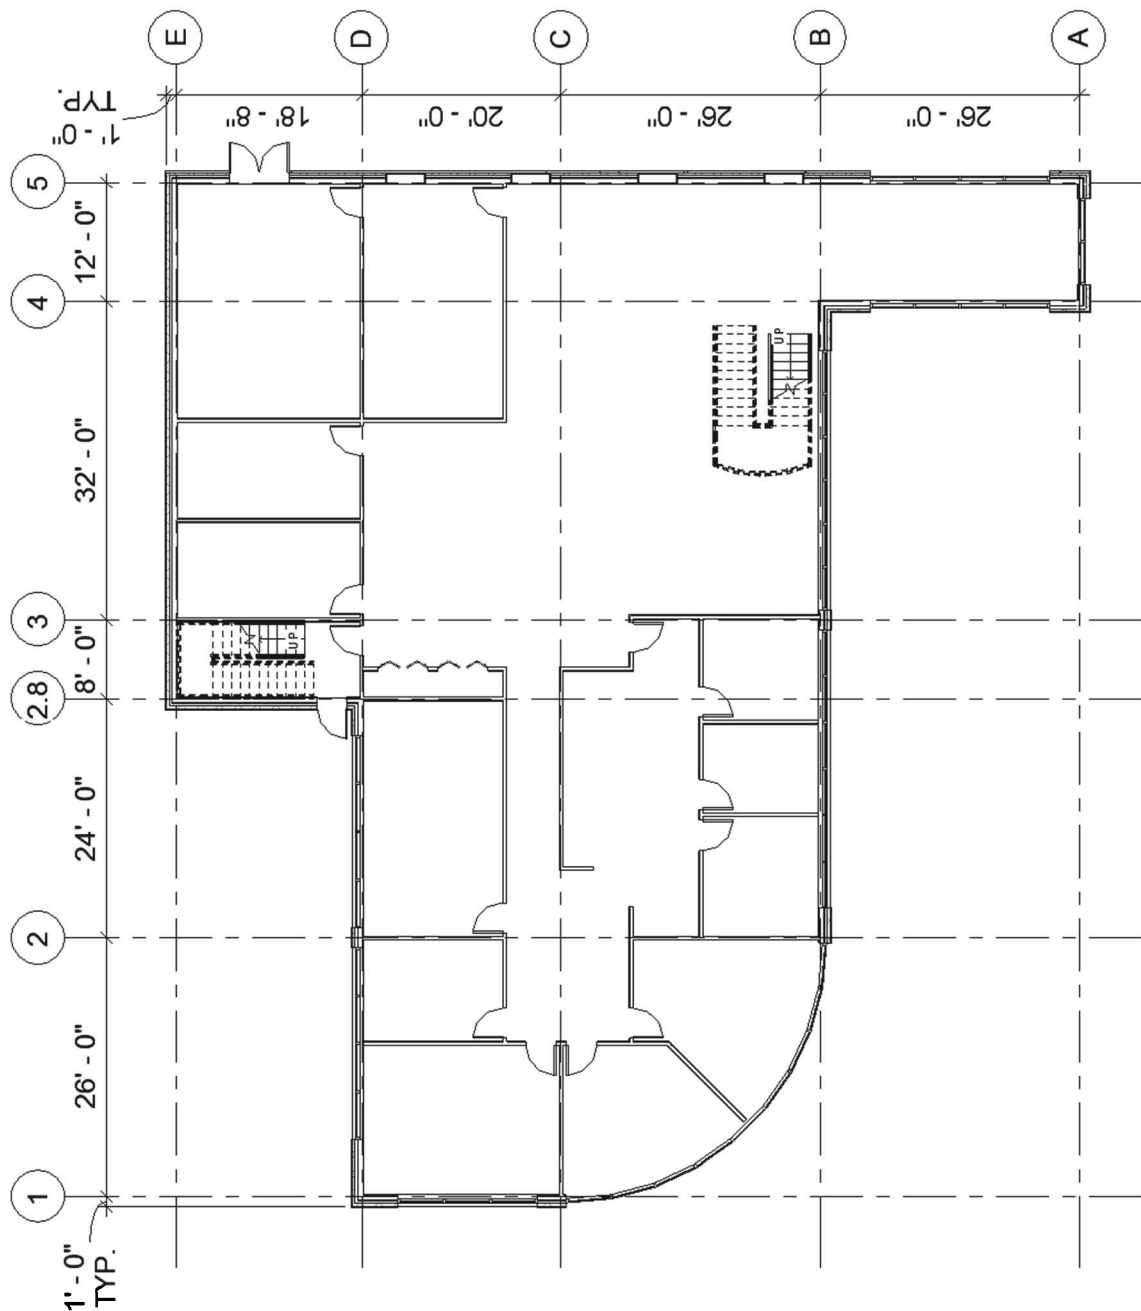

FIGURE 8-3.3
4. Layout the grid as shown in Figure 8-3.3.
- b. Use this as an opportunity to double-check the overall dimensions of your building. Many of the grids can be laid out based on the 1'-0" distance from the exterior face of the exterior wall rule we have established. Additionally, Figure 8-3.3 shows dimensions between each grid; this can be used to locate the remaining grids and verify dimensions.
FYI: In the image below (Figure 8-3.3), you can see two dimensions with the word “**TYP.**” below them. First off, this is an abbreviation which should only be used if it has been defined in an abbreviation list somewhere in the set of documents. This abbreviation means “TYPICAL”, and when used like this, lets the contractor know that any grid line near an exterior wall should be this same dimension (1'-0" in this case).